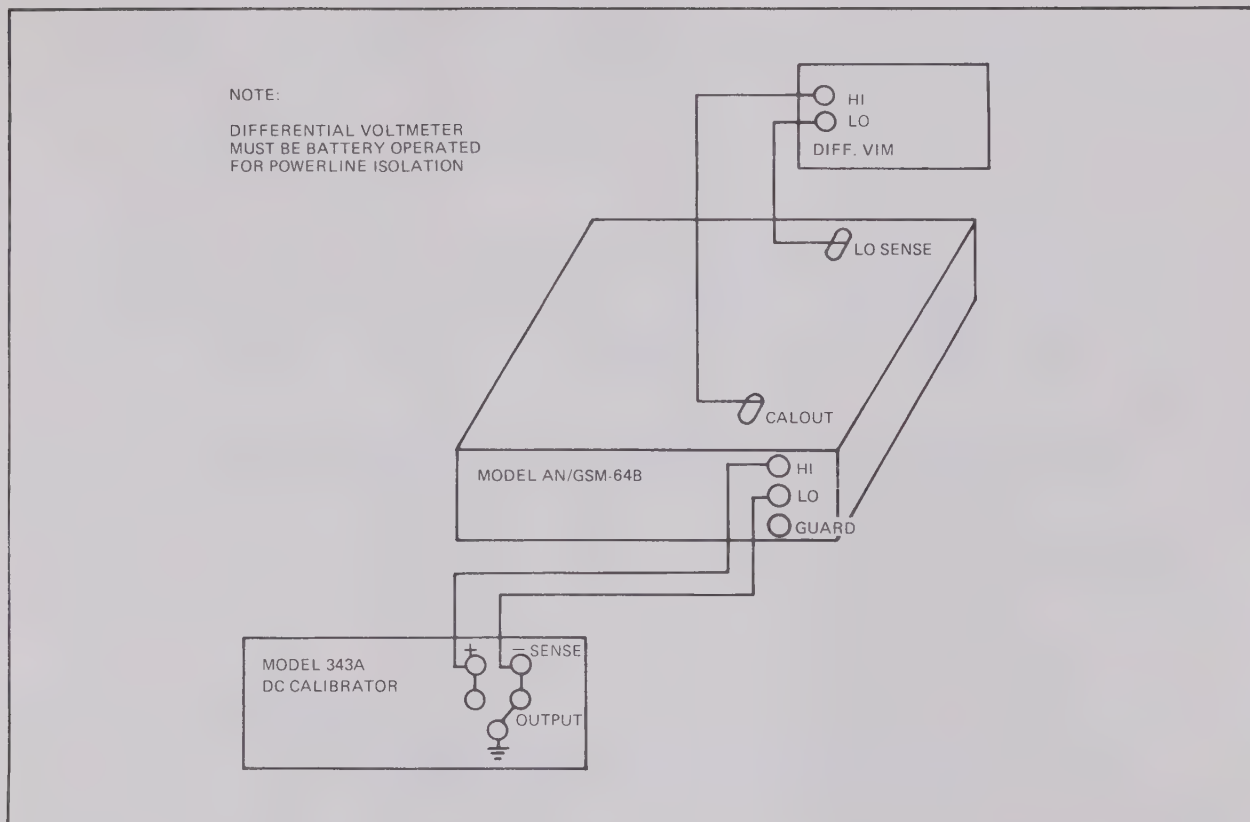

Figure 19. EQUIPMENT CONNECTION FOR VDC CALIBRATION
- a. Connect test equipment as shown in Figure 19.
- Connect equipment as shown in Figure 19.
- b. Connect equipment as shown in Figure 19.
- a. Connect equipment as in Figure 19, but do not connect the differential voltmeter.